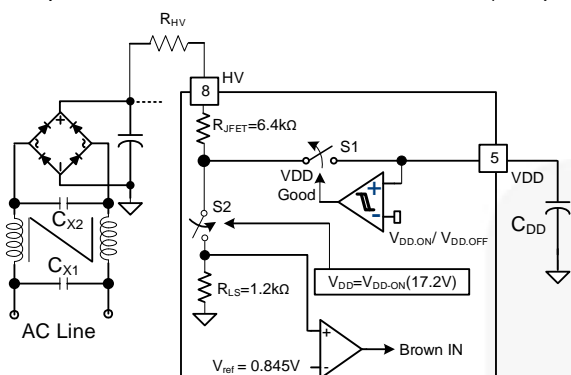
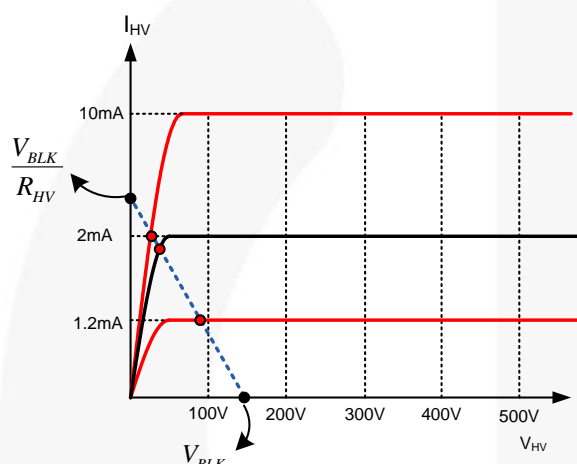

Figure 43. HV Startup Circuit
Figure 44. Characteristics of HV pin
Figure 43 shows the high-voltage (HV) startup circuit. An internal JFET provides a high voltage current source, whose characteristics are shown in Figure 44. To improve reliability and surge immunity, it is typical to use a  $R_{HV}$  resistor between the HV pin and the bulk capacitor voltage. The actual current flowing into the HV pin at a given bulk capacitor voltage and startup resistor value is determined by the intersection point of characteristics I-V line and the load line as shown in Figure 44.
During startup, the internal startup circuit is enabled and the bulk capacitor voltage supplies the current,  $I_{HV}$ , to charge the hold-up capacitor,  $C_{VDD}$ , through  $R_{HV}$ . When the  $V_{DD}$  voltage reaches  $V_{DD-ON}$ , the sampling circuit shown in Figure 43 is turned on for  $t_{HV-det}$  (100  $\mu$ s) to sample the bulk capacitor voltage. Voltage across  $R_{LS}$  is compared with reference which generates a signal to start switching. If brown-in condition is not detected within this time, switching does not start. Equation (9) can be used to program the brown-In of the system. If line voltage is lower than the programmed brown-In voltage, FAN602L goes in auto-restart mode.